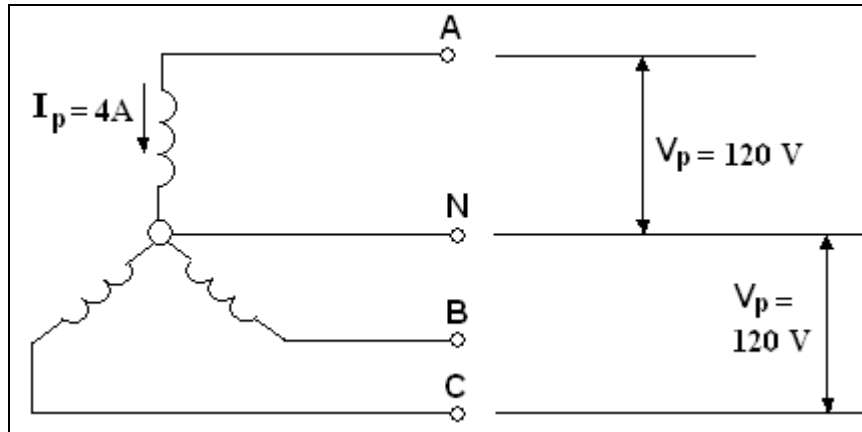

Fig. 2.4-14
1. Calculate line voltage for the **Wye** connection in Fig. 2.4-14
2. Determine the line current for the connection in Fig. 2.4-14.
3. Calculate the phase voltage for the connection in Fig. 2.4-14, if the line voltage is 277 volts.
4. Calculate the line voltage for the connection in Fig. 2.4-14, if the phase voltage is 360 V.